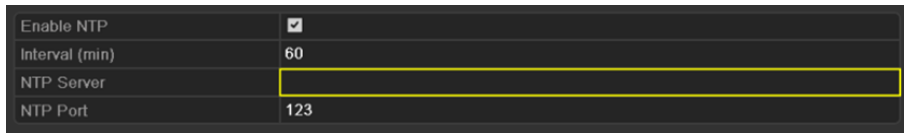

Figure 12-12 NTP Settings Interface
Step 2 Select the **NTP** tab to enter the NTP Settings interface, as shown in Figure 12-12.